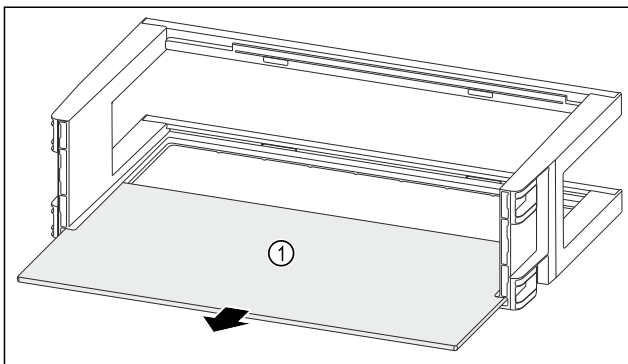

Fig. 138
- Remove the shelf Fig. 138 (1).